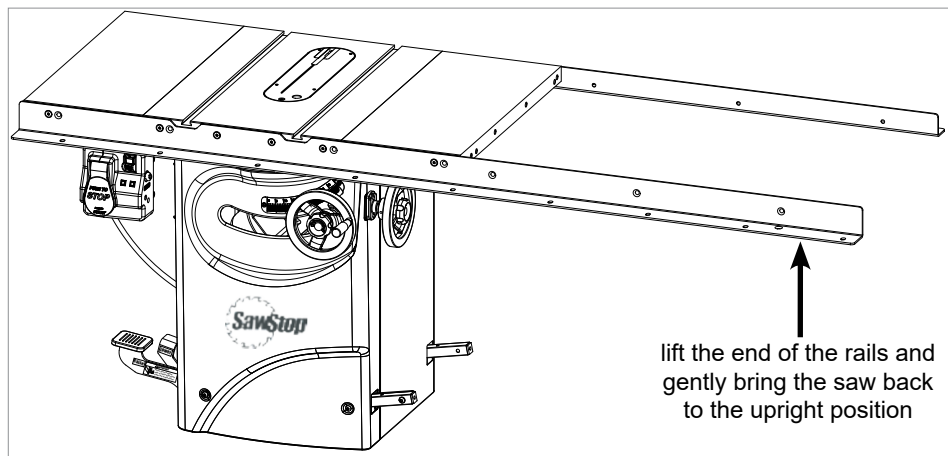

Fig. 37
19. You have now installed all the interior components of the mobile base, so lift the end of the rails and gently bring the saw back to the upright position, as shown in Fig. 37. Be careful not to let the cabinet fall back to the floor rapidly.